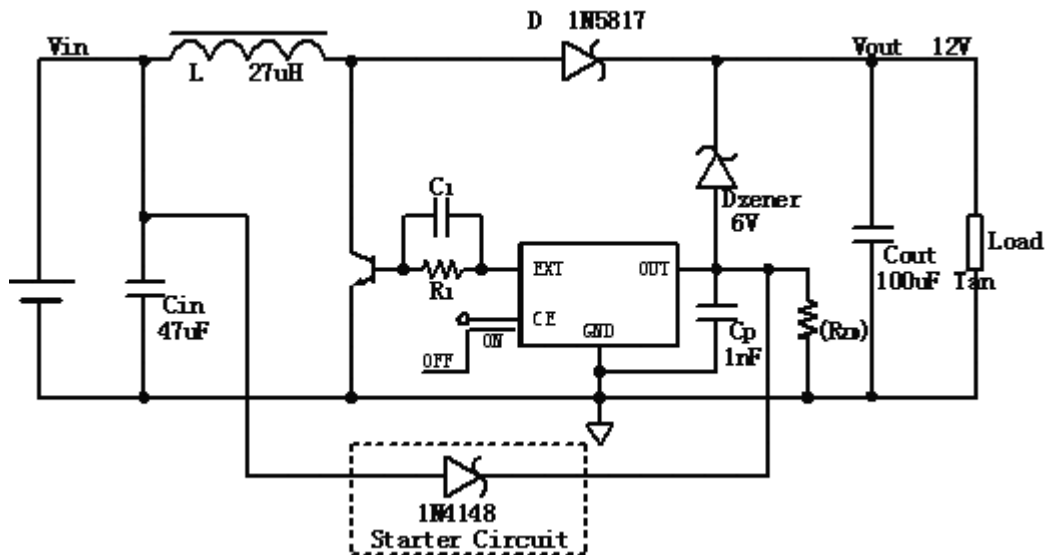
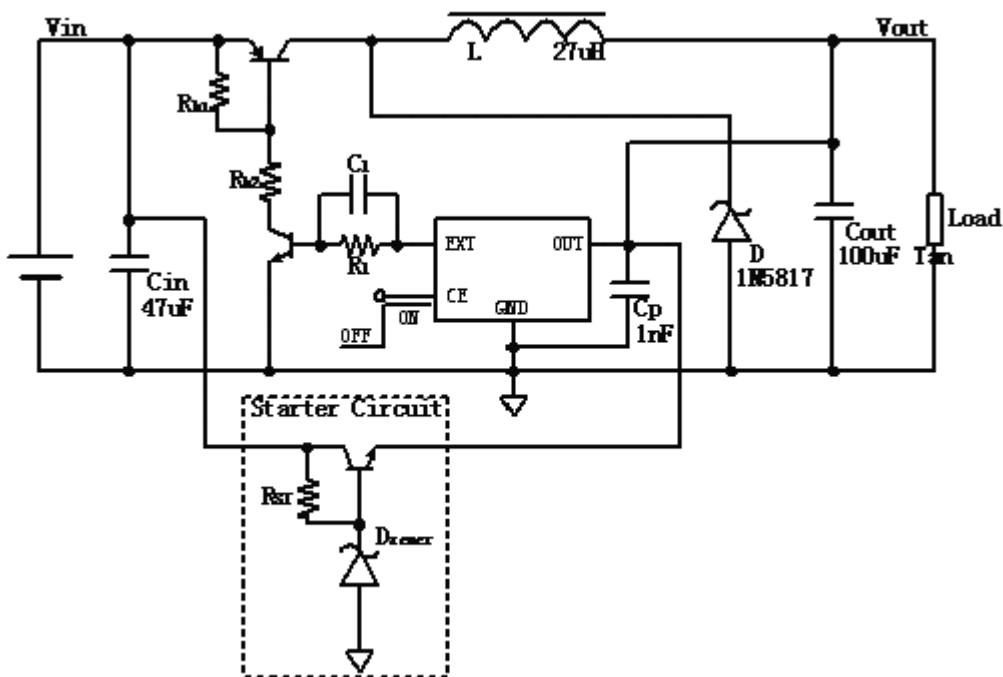

Fig 8
Fig 9
**Note:** In step-down and step-up/step-down application, starter circuit in fig 8 is need. In step-up application, simpler starter circuit in fig 9 can be used.